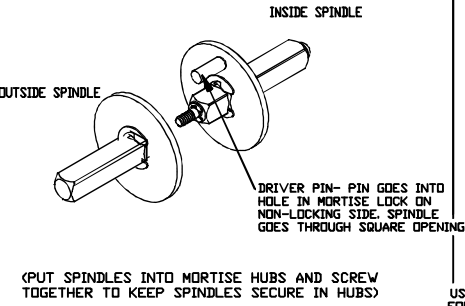

FIG 2
5. SLIDE THE SPRING CAGE ON THE OUTSIDE SPINDLE (SEE FIG 5). SLIDE OUTSIDE LEVER ASSEMBLY ONTO THE MORTISE WITH POSTS GOING THROUGH THE MORTISE THROUGH HOLES AND LINED UP WITH THE SPRING CAGE LEGS. SEE FIG 2 & FIG. 5.
6. ON THE OPPOSITE SIDE- PUT THE 2 MOUNTING SCREWS THROUGH HOLES ON THE ROSE- SEE FIG 2. ALIGN THE SCREWS WITH THE POSTS AND TIGHTEN.
11. LEVER HANDING- CHANGE MOUNTING POST POSITION TO CHANGE HANDING - SEE FIG 2 FOR RH. SEE MORTISE HANDING CHANGE INSTRUCTIONS TO CHANGE MORTISE HANDING. NOTE: DRIVER PIN IN ON NON-LOCKING SIDE (SEE EXPLODED VIEW).